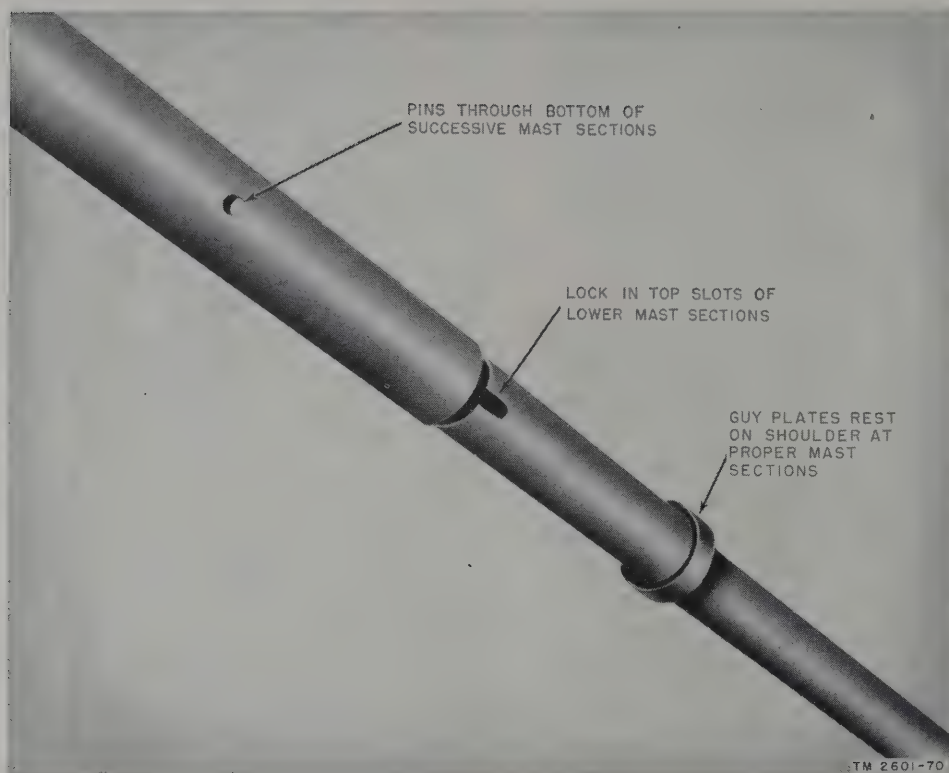

Figure 59. Detail of mast section lock.
- (7) Tip the mast base on its right side looking towards the distant station, and place the base of the gin pole in its socket.
- (8) Assemble four mast sections for the antenna and insert the proper end into the mast socket. The mast socket should be pointed towards the distant station. Place a guy plate over the end of the fourth section against the guy-plate sleeve located near the upper end of the section. Add three more sections and follow with another guy plate; then add one more mast section, completing the entire mast length. Fully engage the slots and pins of all sections so that it is impossible to rotate one section relative to another (fig. 59). Lift the top end of the mast off the ground and place the scissors horse (or a packing case) under the next to the top section.
- (9) Unroll the guys and, if made of Nylon, condition them as outlined in (a) above. Attach the 37-foot and 50-foot guys to their respective guy plates on the mast (four of each guy at each guy plate). The 37-foot guys are used on the guy plate located at the top of the fourth mast section, and the 50-foot guys are used on the guy plate at the top of the seventh section.
- (1) Unroll the guys. Slip the ring end of a stake Ring-Snap Assembly MX-533/TRC-1 over each of four Guy Stakes GP-108/U. Drive the guy stakes 90° apart at a distance of 25 feet from the mast base. A 50-foot guy, doubled and looped around the mast base, may be used to locate the stakes properly. Slip the ring attached to the single-sheave end of the block and tackle assembly over that Guy Stake GP-108/U that is to be used with the gin pole. Drive the gin pole stake at a point three mast section lengths (15 feet) away from the mast base (fig. 58). Locate Mast Base AB-102/TRC-1 so that the engraved figures on the plate of the mast base coincide with true compass points (0° to north). Fasten the mast base with Stakes GP-2 (fig. 59).
- (2) Tilt the sockets of the base toward the distant station, and assemble four mast sections, mating the correct end with the mast socket. Place a guy plate over the end of the fourth section against the guy-plate sleeve located near its upper end. Add three more mast sections. Install another guy plate, then the eighth, ninth, and tenth mast sections, and install another guy plate, thus completing the entire 50-foot mast length. Also assemble three sections for the gin pole. Place a guy plate over the upper end